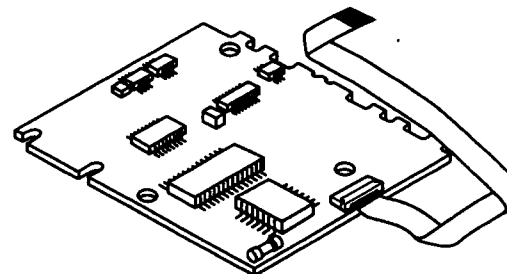

Figure 1-10.
- With the component side of the Advantage Board facing up, insert and properly align folded end (blue side up) of flex connector cable into the 16-pin connector on the Advantage Board as shown in Figure 1-10.